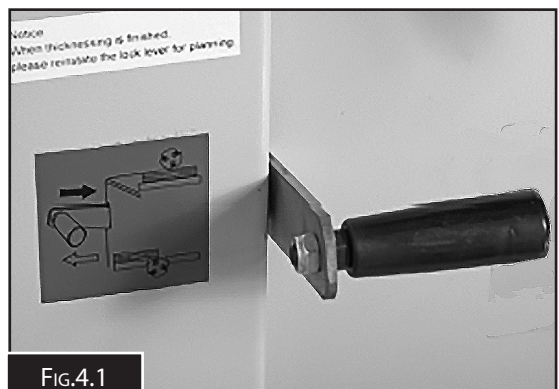

FIG.4.1
1. Lower the surface tables and re-mount the fence assembly. Check the machine is set up correctly, see the section for setting up the machine. Press down the locking lever to engage the planing function. (Fig.4.1)
3. Raise the locking lever to engage the thickening function. (Fig.4.1)